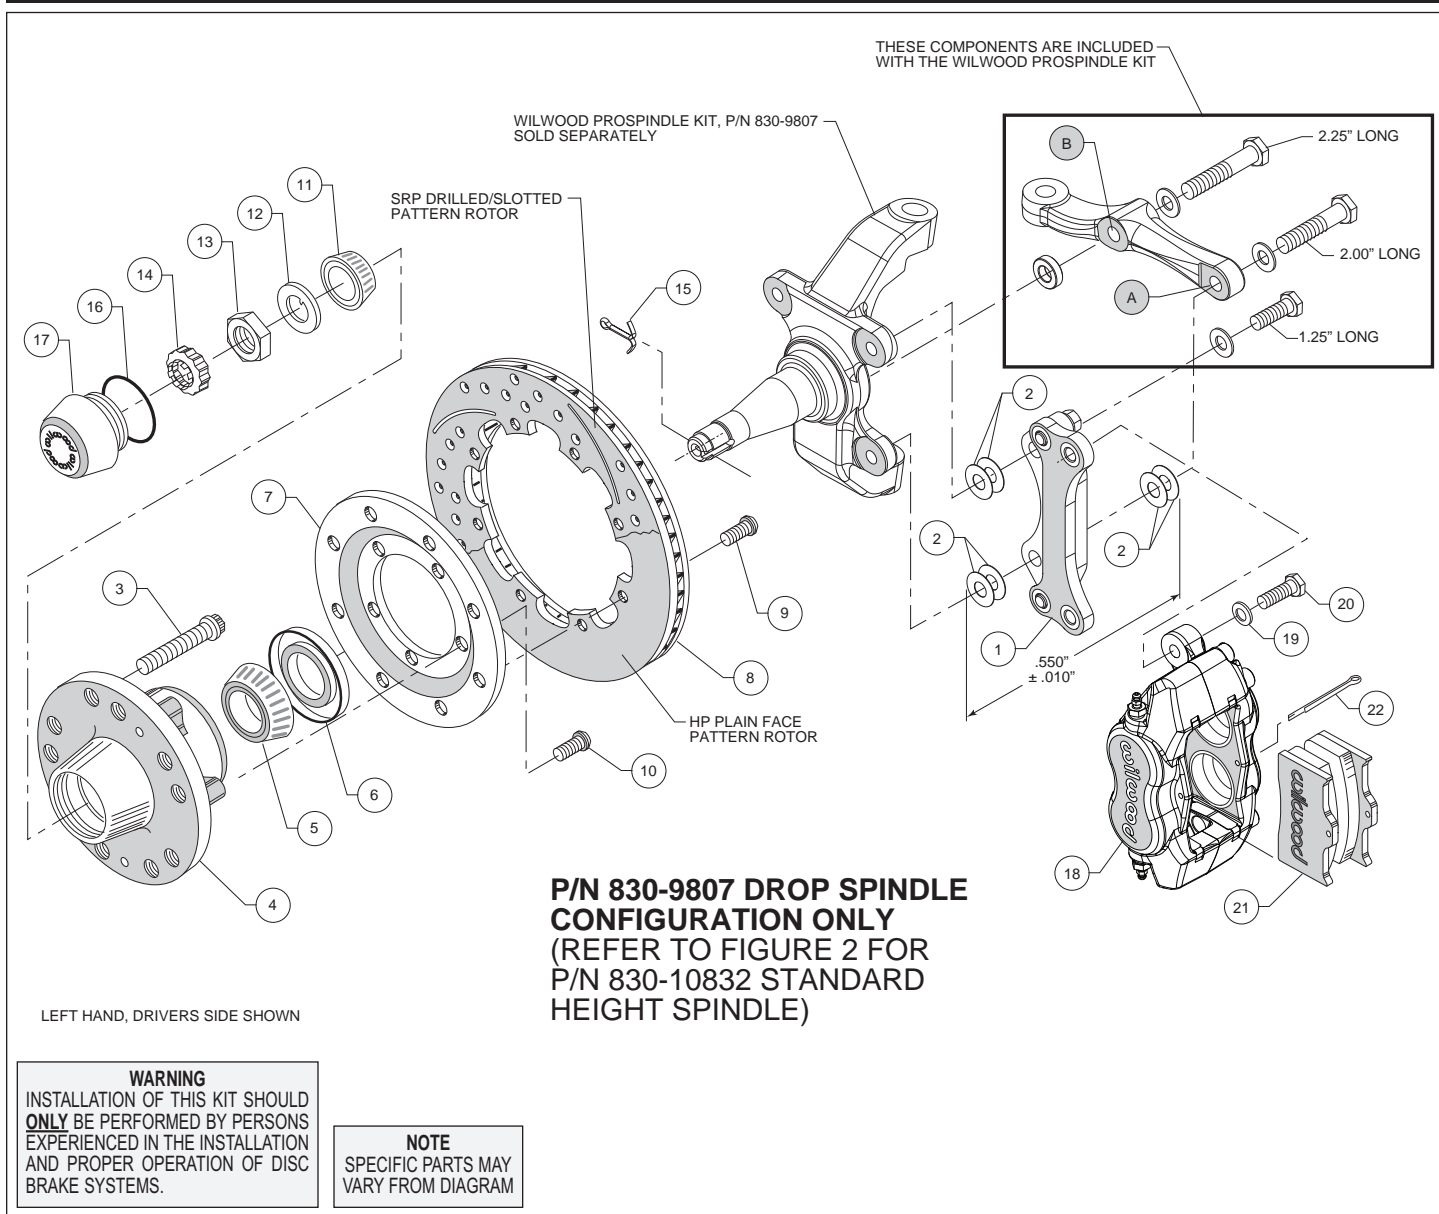
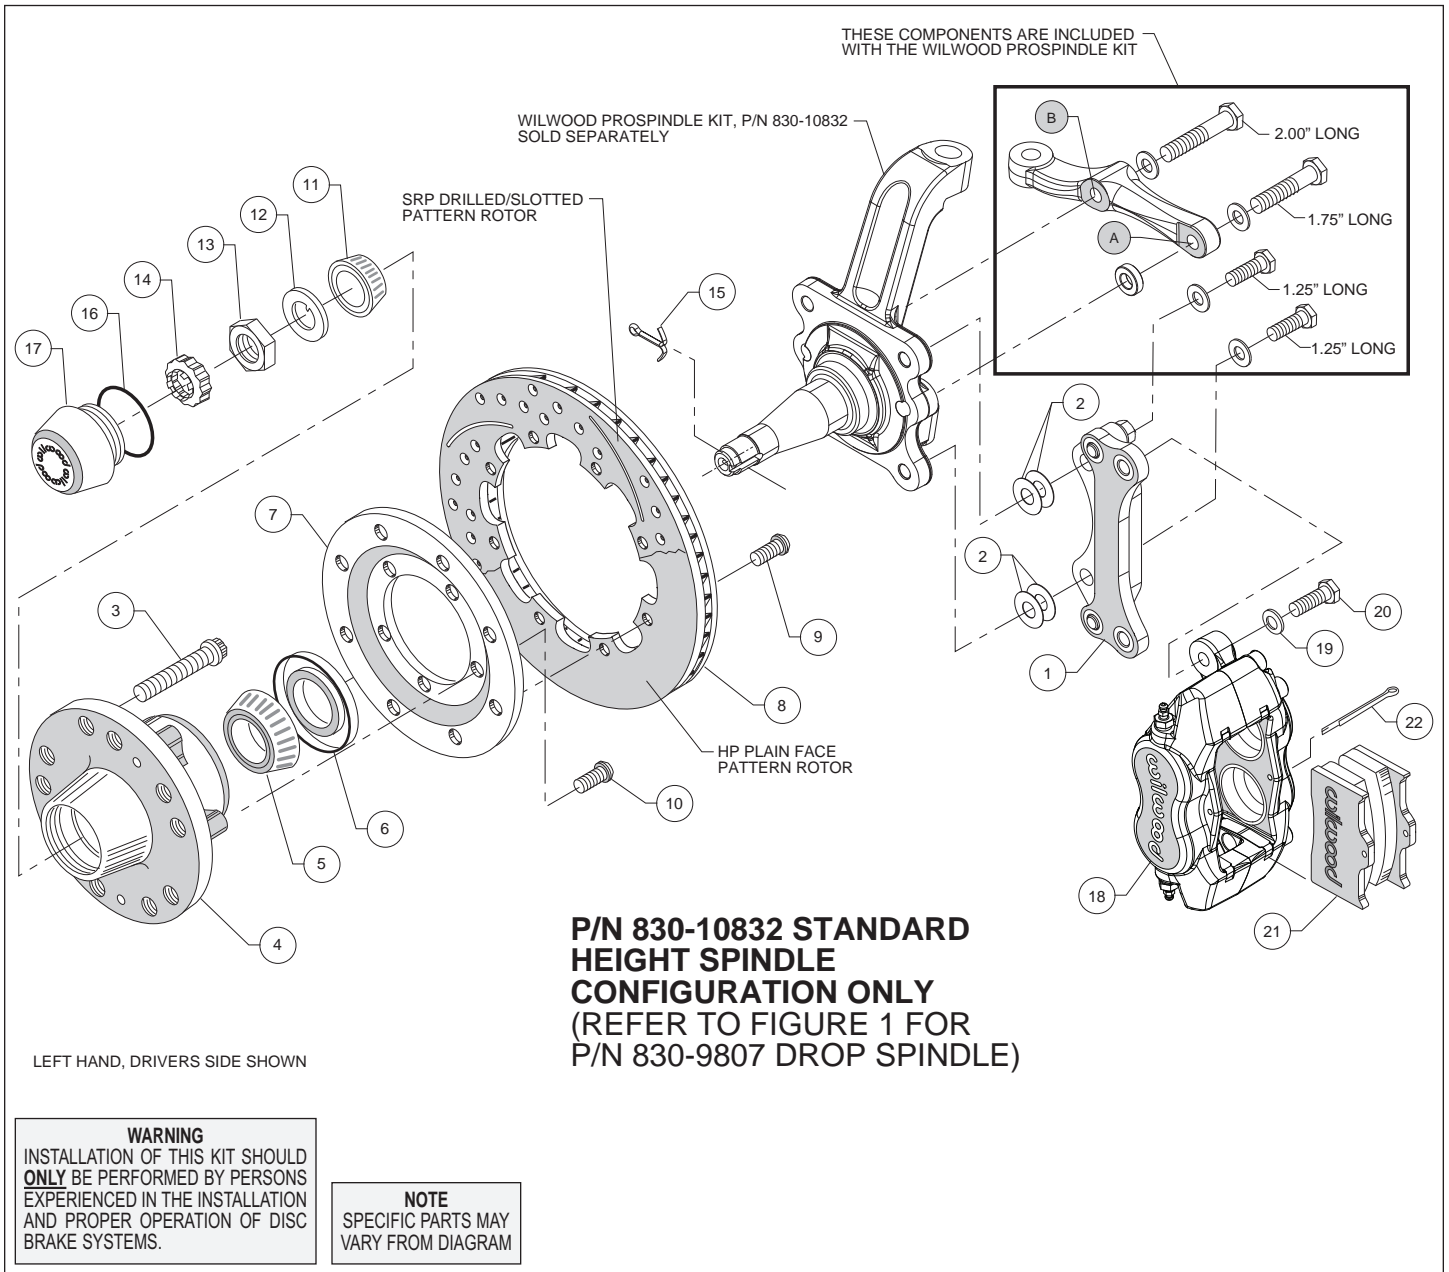

Figure 1. Installation Configuration For Drop Spindle, P/N 830-9807
Figure 2. Installation Configuration For Standard Height Spindle, P/N 830-10832
Assembly Instructions (numbers in parenthesis refer to the parts list and Figures 1 and 2 on the preceding pages):
•**NOTE:** Each Wilwood ProSpindle kit includes bolts, washers, and a spacer to mount the steering arm and caliper bracket. The various bolts are identified by length in the following instructions and in Figures 1 and 2.
- Orient the bracket as shown in Figure 1 and Photo 1. Install at top spindle hole using 1.25" long bolt and .06" thick washer (from ProSpindle kit), and two .016" thick shims (2) between the bracket and spindle, Figure 1.
- Orient the steering arm, and identify the hole marked 'A', as shown in Figure 1. Install at bottom spindle hole using 2.00" long bolt, .06" thick washer (from ProSpindle kit), two .016" thick shims (2) between the steering arm and the bracket, and another two more .016" thick shims (2) between the bracket and spindle, Figure 1. The bracket is located between the steering arm and spindle. **NOTE:** The bracket and shim washers must add up to a total thickness of .550" ± .010", Figure 1.
- Finish attaching the steering arm through the hole marked 'B', as shown in Figure 1. Install using 2.25" long bolt, .06" thick washer, and .25" thick spacer (all from ProSpindle kit), Figure 1.
- Orient the bracket as shown in Figure 2 and Photo 2. Install using 1.25" long bolts and .06" thick washers (from ProSpindle kit), and two .016" thick shims (2) on each bolt between the bracket and spindle, Figure 2. Temporarily tighten mounting bolts. **NOTE: The bracket must fit squarely against the mounting points on the spindle.** Inspect for interference from casting irregularities, machining ridges, burrs, etc. Later, after the caliper alignment has been checked, the mount bolts will be secured using red *Loctite*[®] 271.
- Orient the steering arm, and identify the hole marked 'A', as shown in Figure 2. Install using 1.75" long bolt, .06" thick washer, and .30" thick spacer (all from ProSpindle kit), Figure 2.
- Finish attaching the steering arm through the hole marked 'B', as shown in Figure 2. Install using 2.00" long bolt and .06" thick washer (from ProSpindle kit), Figure 2.
- Install wheel studs (3) into the hub (4), Photo 3. Torque to 77 ft-lb. **NOTE: There are two lug patterns of five holes each in the hub (5 x 4.50 and 5 x 4.75).** Make sure of the correct hole pattern for the wheel application before installing the studs into the hub.
- Pack the large inner bearing cone (5) with high temperature disc brake bearing grease (available from your local auto parts store) and install into the backside of the hub (4), Photo 4.
- Install the grease seal (6) by pressing into the backside of the hub (4), flush with the end of the hub, Photo 4.
- Orient the rotor (8) and the rotor adapter (7) as shown in Figure 1 or 2 and Photo 5. Attach the rotor to the adapter using bolts (9). Using an alternating sequence, apply red *Loctite*[®] 271 to the threads, and torque to 25 ft-lb.
- Mount the adapter/rotor assembly (7 and 8) to the hub (4) using bolts (10), as shown in Figure 1 or 2 and Photo 6. Using an alternating sequence, apply red *Loctite*[®] 271 to the threads, and torque to 45 ft-lb.
- Pack the small outer bearing cone (11) with high temperature disc brake bearing grease and install into front of hub (4). Slide the hub assembly onto the spindle. Secure using spindle washer (12) and spindle nut (13), Photo 7. Bearing adjustment: Tighten the nut while turning the hub. When there is a slight bind on the bearings, they are seated correctly. Back the nut off about 1/6 to 1/4 of a turn, or sufficiently to allow .001" to .007" end play. **WARNING: Failure to back off adjusting nut could cause bearing to run hot and be**
- Screw dust cap (17) into hub (4), Photo 8. Friction created by the o-ring (16) on the dust cap keeps it from unscrewing.
- NOTE:** Please reference the caution statement at the beginning of the assembly instructions. Mount the caliper (18) onto the caliper mounting bracket (1) using bolts (20) and washers (19), as shown in Figure 1 or 2. Temporarily tighten the mounting bolts and view the rotor (8) through the top opening of the caliper. The rotor should be centered in the caliper, Photo 9. If not, proceed as follows: